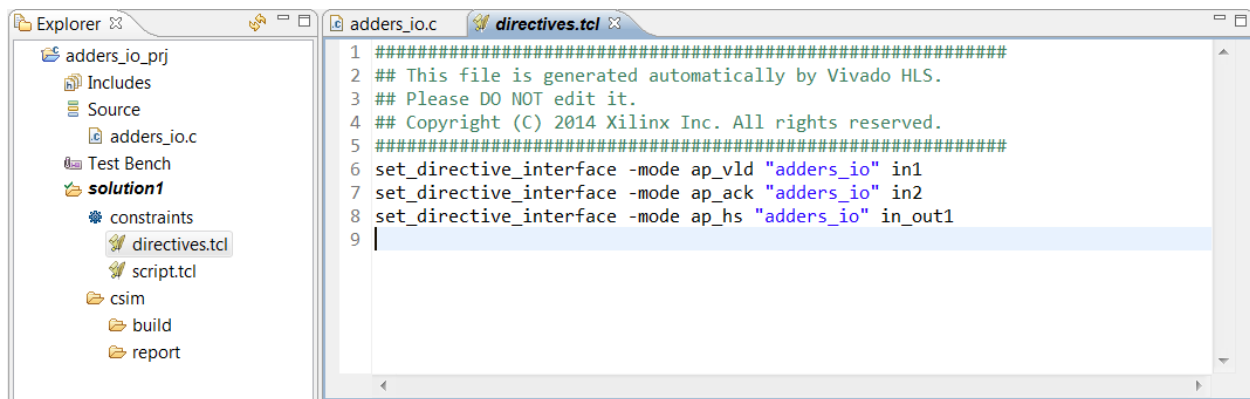

Figure 67: Directives for Lab 2
7. In the Explorer pane, expand the Constraints folder and double-click the `directives.tcl` file to open it, as shown in Figure 67.